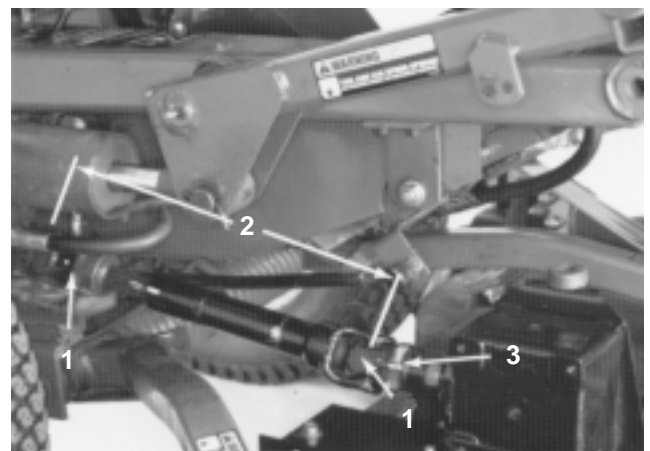

Figure 18
3. Drive out the roll pin securing the drive shaft yoke to the input shaft of the gear box (Fig. 18). Loosen the capscrews and locknuts and slide the yoke off of the input shaft. If the traction unit will be used without the cutting unit, drive the roll pin out of the yoke at traction unit PTO shaft and remove the entire drive shaft from the traction unit.